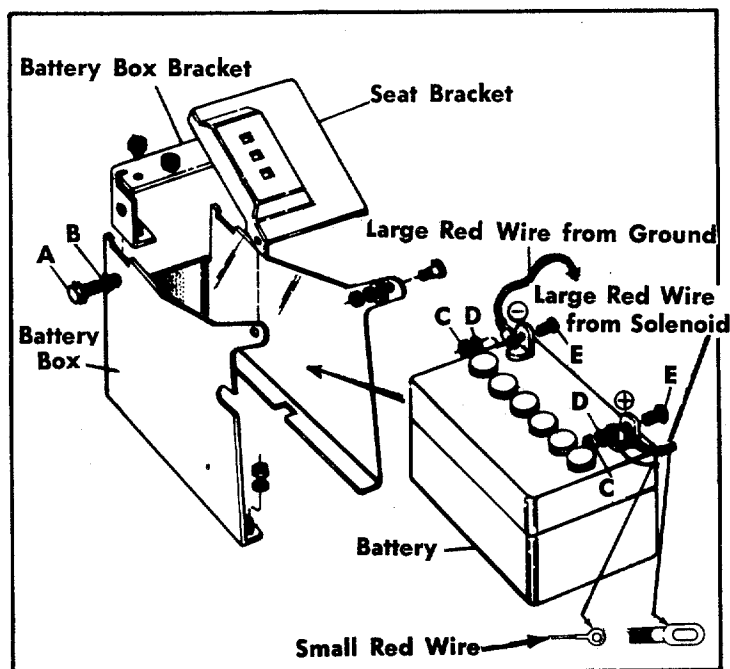

FIGURE 4. INSTALLING THE BATTERY
INSTALLING THE BATTERY (Electric Start Models Only) **See figure 4.**
Step 5. Attach the large red wire from the solenoid and the small red wire to the positive (+) terminal of the battery with a 1/4" screw (E), washer (D) and nut (C).
Step 6. Attach the large red wire from the ground (-) to the negative (-) terminal of the battery with a 1/4" screw (E), washer (D) and nut (C).
Step 7. Replace the battery box bracket with screw (A) and washer (B). See figure 4.